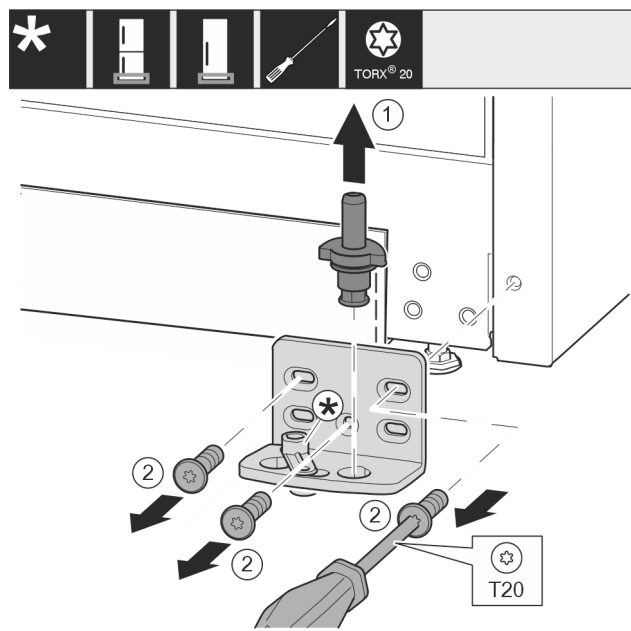

Fig. 11
- ▶ Pull the bearing bolt Fig. 11 (1) out upwards completely.
- ▶ Use screwdriver to unscrew the screws Fig. 11 (2) and remove the swap bearing block.